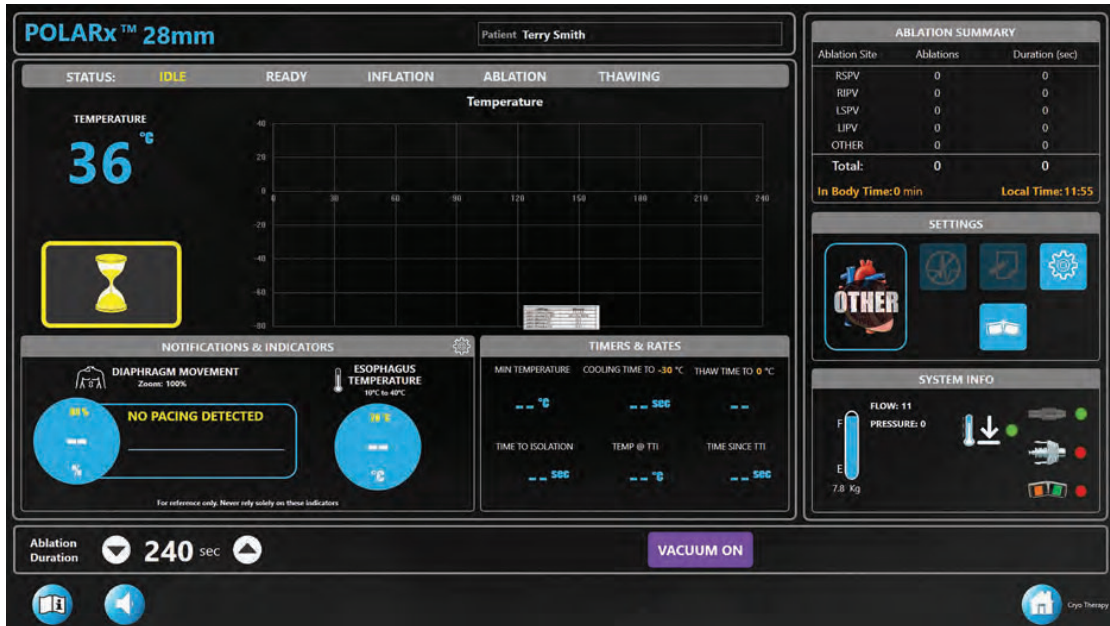

Figure 5. Therapy Screen–IDLE state–valid catheter connected
2. Press the **VACUUM ON** button on the Therapy screen (Figure 5).